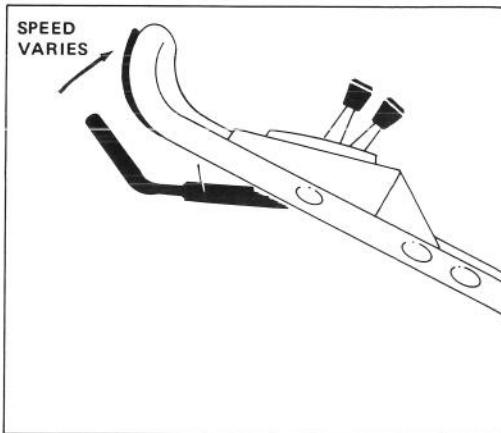

Figure 12
5. TRACTION OPERATION (Self-propelled model) — Move ground speed control to desired setting and squeeze control bar against handle to drive. Ground speed varies, depending on space between control bar and handle (Fig. 12).
6. STOPPING (Fig. 12) — Release control bar to stop traction drive. Move ground speed control to "N" on self-propelled models. To stop engine, move throttle to OFF. Remove key from switch or pull wire off spark plug if mower is unattended or not used.